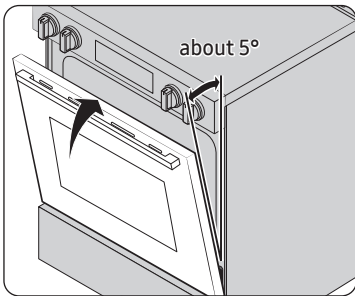

Fig.1
4. Close the door to the door removal position, which is approximately 5 degrees from vertical (Fig. 1).